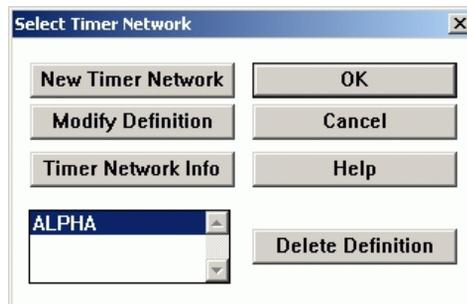

Figure 34 Select Timer Network Dialog Box
3. Select *Open Timer Network Window* from the *File* menu. The *Select Timer Network* dialog box displays (Figure 34).